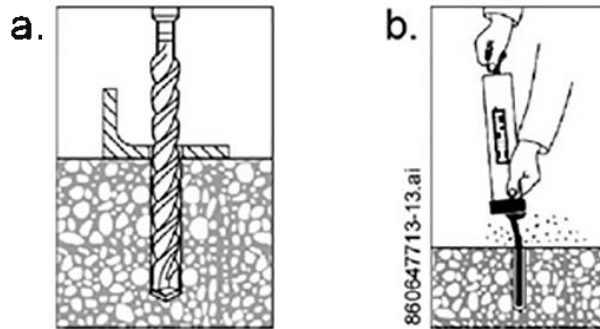
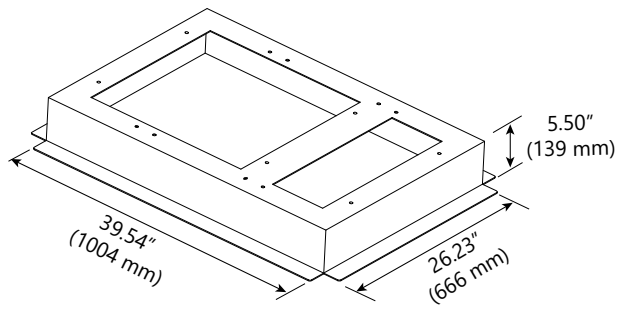
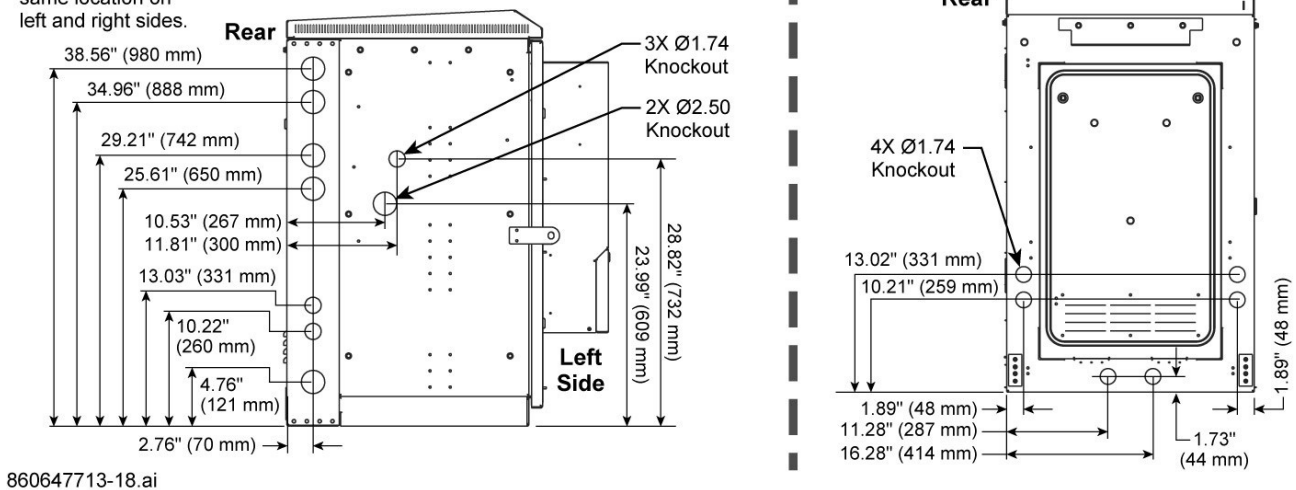

Figure 14. Drill Anchor Holes and Remove Debris
Figure 16. Pad Mount Frame Dimensions
Figure 24. Cabinet Knockout Locations, MSO AIO Cabinet
Note: If routing cable through pad (structure), remove floor knockouts before placing cabinet onto gasket; Figure 13, Figure 16, Figure 17 and Figure 24.
The Pad Mount Frame (MID; 760255236 | KIT, FRAME, AIO), shown in Figure 16, is a stainless-steel frame that provides a mounting base for the cabinet when embedded in a concrete foundation.
- If routing cable through pad (structure), remove floor knockouts (punch outside to inside) before placing cabinet onto pad; Figure 13, Figure 14, Figure 24.
Bring in cable through knockouts on left and right walls and cabinet base, Figure 24.
- Use knockouts on cabinet topside only for stacking two cabinets (MSO AIO Cabinet only), Figure 24.